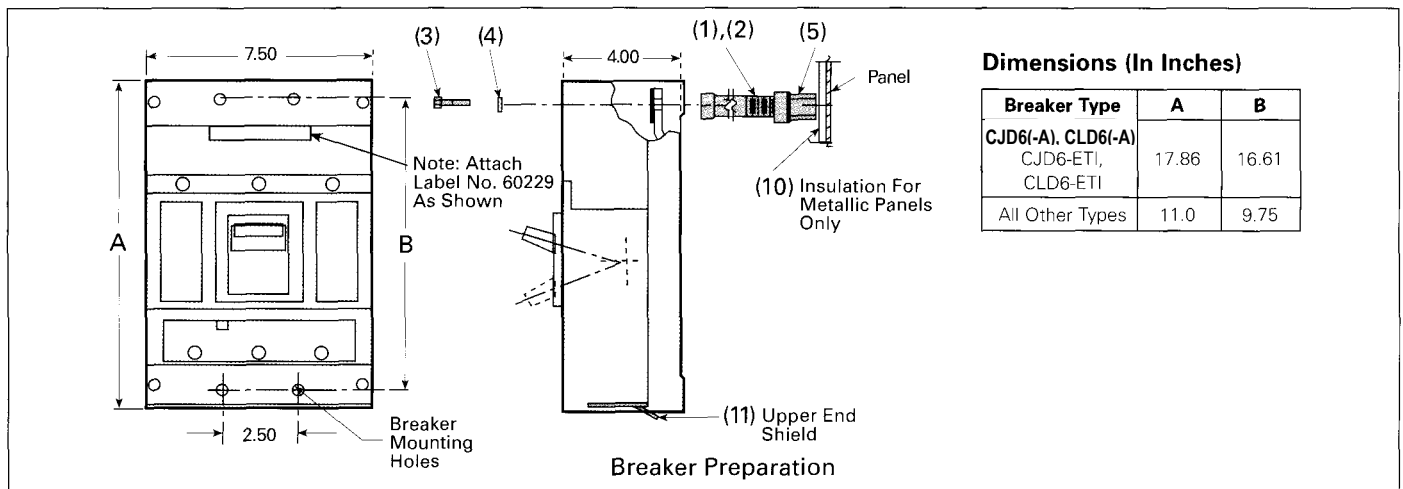

Figure 2
Breaker Preparation (Figure 2)
- A. Insert the upper end shields **(11)** into the slots provided at the line and load ends of the breaker (Figure 2), one for each stud position.
- B. Affix the label Pc. No. 60229 to breaker cover (Figure 2).